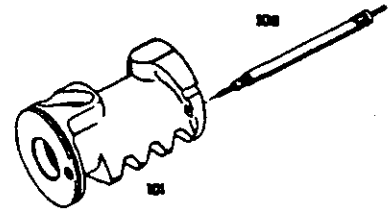

Fig.28
6.2 Versions with screwed valve insert (109) - steering limiter valve
Screw valve insert (109) into piston as far as possible with tool [2] (Fig.28) (tightening torque: 15 ± 1 Nm).